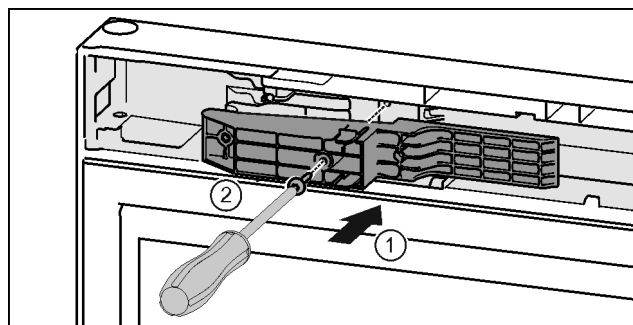

Fig. 46 \*
- ▶ Install the adapter on the handle side of the slot. Fig. 46 (1)\*
- ▶ Tighten the screws with the T15 screwdriver. Fig. 46 (2)\*